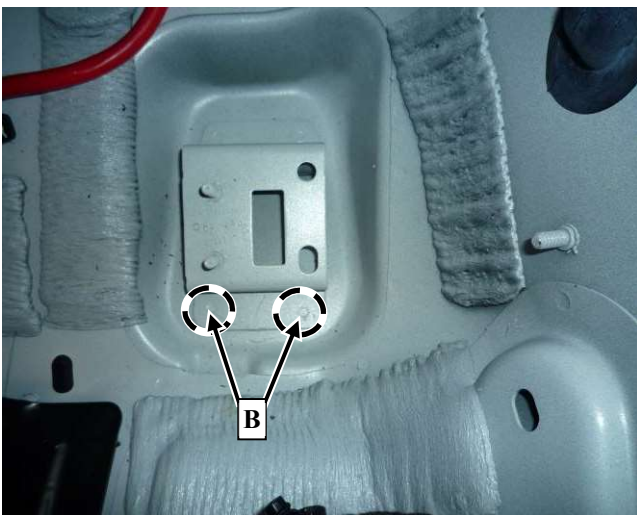

Figure 3
3. Drill the two lower resistance spot welds (**Figure 3, B**) on accelerator pedal module bracket using a **6.7 mm drill bit**.